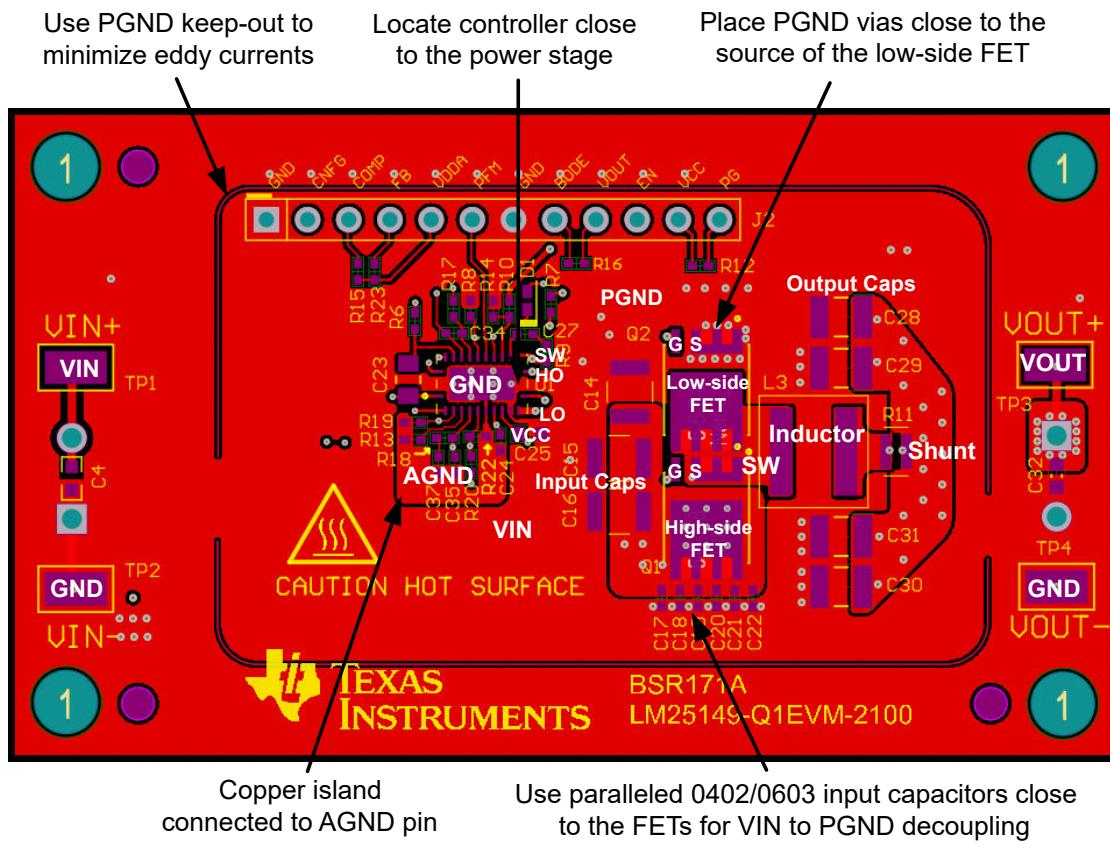

Figure 9-48. PCB Top Layer – High Density, Single-sided Design
- Connect AVSS to a quiet GND connection, further from IC if possible. Keep decoupling capacitor $C_{AEFVDDA}$ close to the AEFVDDA pin and AVSS GND connection. See capacitor C23 in 図 9-48.
Figure 9-48 shows a single-sided layout of a synchronous buck regulator with discrete power MOSFETs, Q1 and Q2, in SON 5-mm × 6-mm case size. The power stage is surrounded by a GND pad geometry to connect an EMI shield if needed. The design uses layer 2 of the PCB as a power-loop return path directly underneath the top layer to create a low-area switching power loop of approximately 2 mm². This loop area, and hence parasitic inductance, must be as small as possible to minimize EMI as well as switch-node voltage overshoot and ringing.
- Make the ground connections to the LM5149 controller as shown in Figure 9-48. Create a power ground directly connected to all high-power components and an analog ground plane for sensitive analog components. The analog ground plane for AGND and power ground plane for PGND must be connected at a single point directly under the IC – at the die attach pad (DAP).